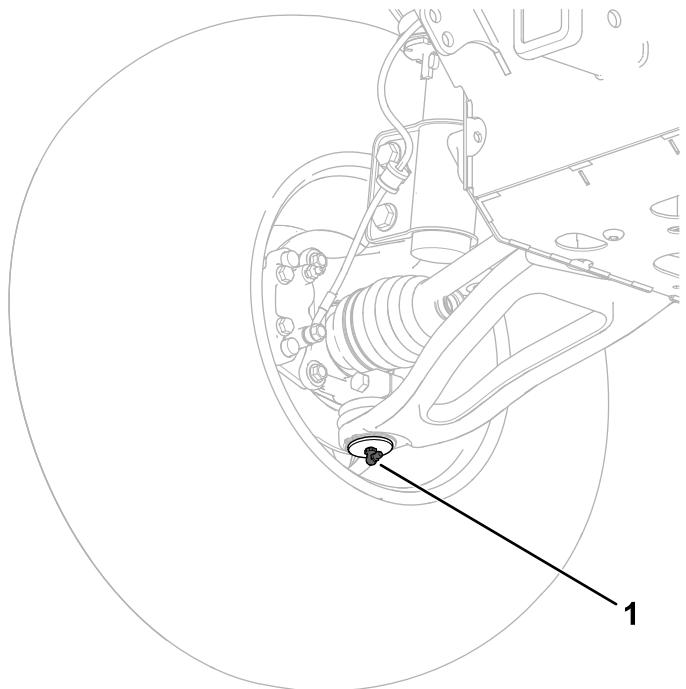

Figure 94
- **Ball joints (2); refer to Figure 94**